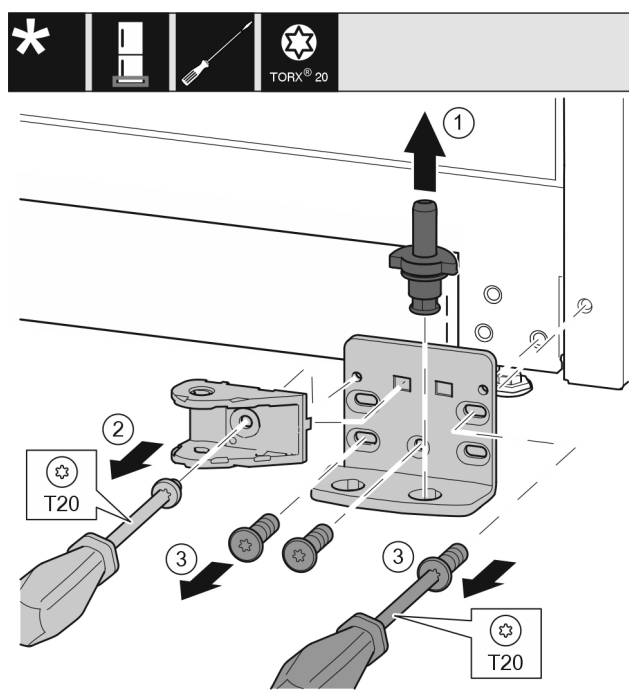

Fig. 35 *
- ▶ Completely pull out the bearing pin Fig. 35 (1) upward.*
- ▶ Use a screwdriver to unscrew the screw Fig. 35 (2) and remove the closing damper connection.
- ▶ Use a screwdriver to unscrew the screws Fig. 35 (3) and remove the swap bearing block.*